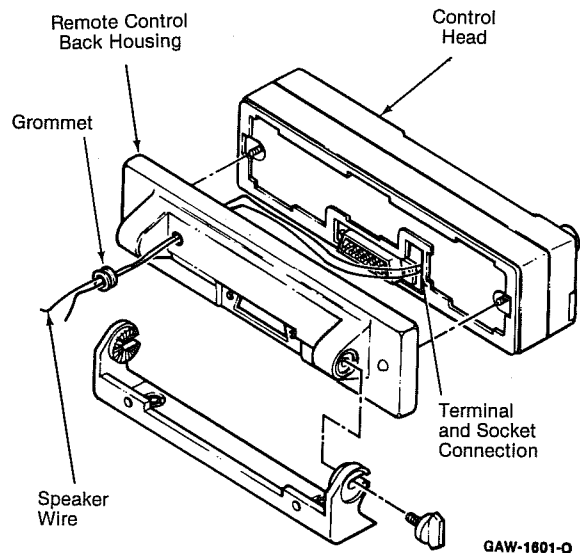

Figure 7
(9) (Remote mount) Push the speaker wire terminals (with plug and cover removed) through the remote back housing and plug them into the sockets on the control head circuit board (Figure 7). Be sure to install a grommet in the hole in the back housing.